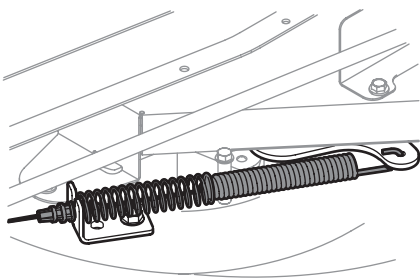

Figure 4-8
8. Carefully remove the PTO cable from the rear of the cutting deck. Remove the spring from the deck idler bracket. See Figure 4-8.